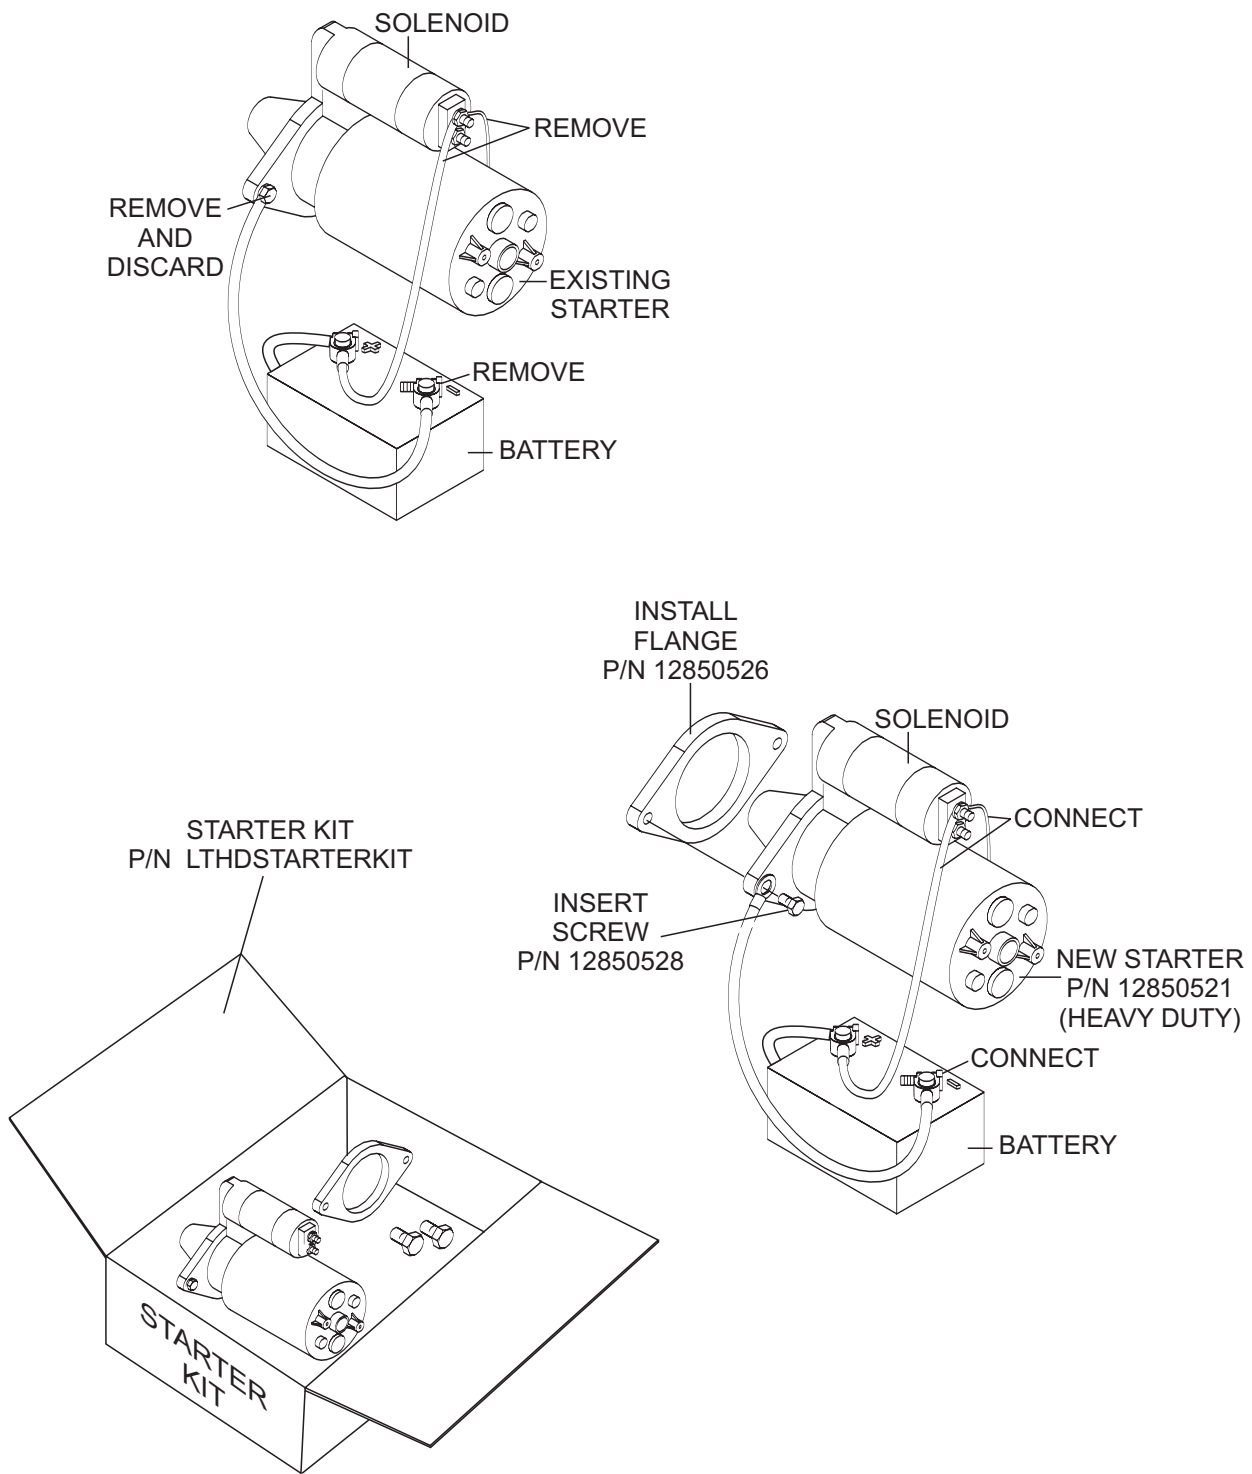

Figure 1. Starter Kit Installation
1. Holding the starter, place the flange (P/N 12850526) between the starter and the engine housing as shown in Figure 1.